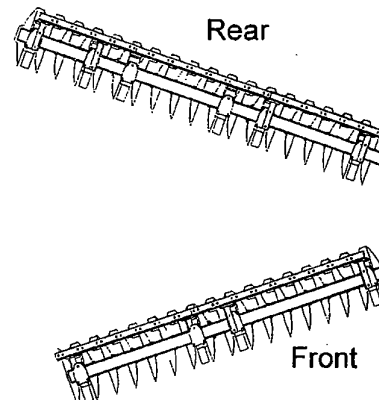

Figure 1 - Positioning Gangs for Assembly
3) Position the gangs in a “V” pattern in the middle of the assembly area as shown in Figure 1 with the scraper blades to the rear. The narrow part of the “V” should be to the left with about 2 feet between the gangs.